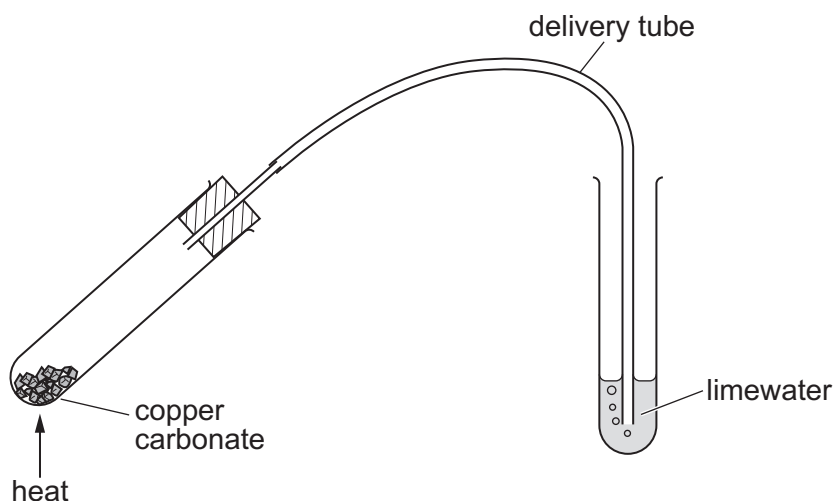

Fig. 2.1
- Place the delivery tube into the limewater, as shown in Fig. 2.1.